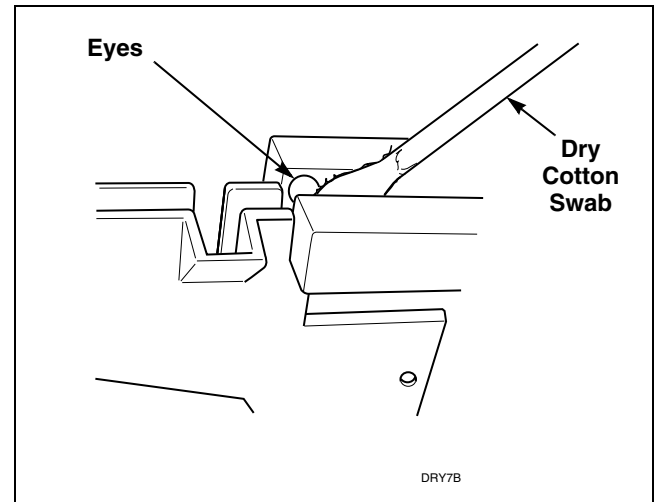

Figure 84
- j. Check coin drop sensor for dust or dirt on eyes. Wipe eyes with dry cotton swab. Refer to *Refer to Figure 84*.